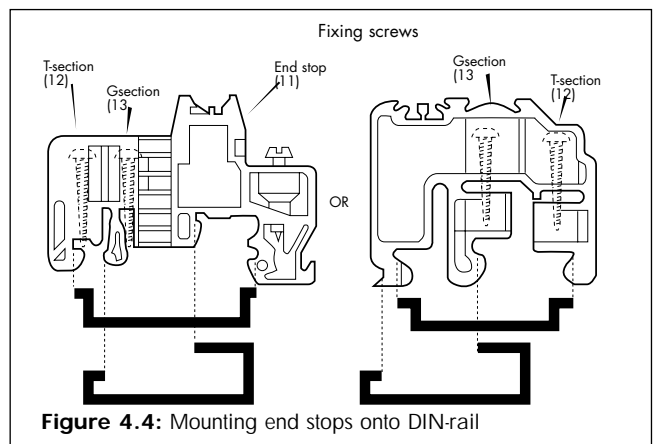

Figure 4.4: Mounting end stops onto DIN-rail
- For vertically orientated backplanes attach one end stop (11) to the lower end of each DIN-rail supporting a column of carriers by clipping the stops into place and tightening the appropriate screw [(12) for T-section and (13) for G-section DIN-rails] (figure 4.4).